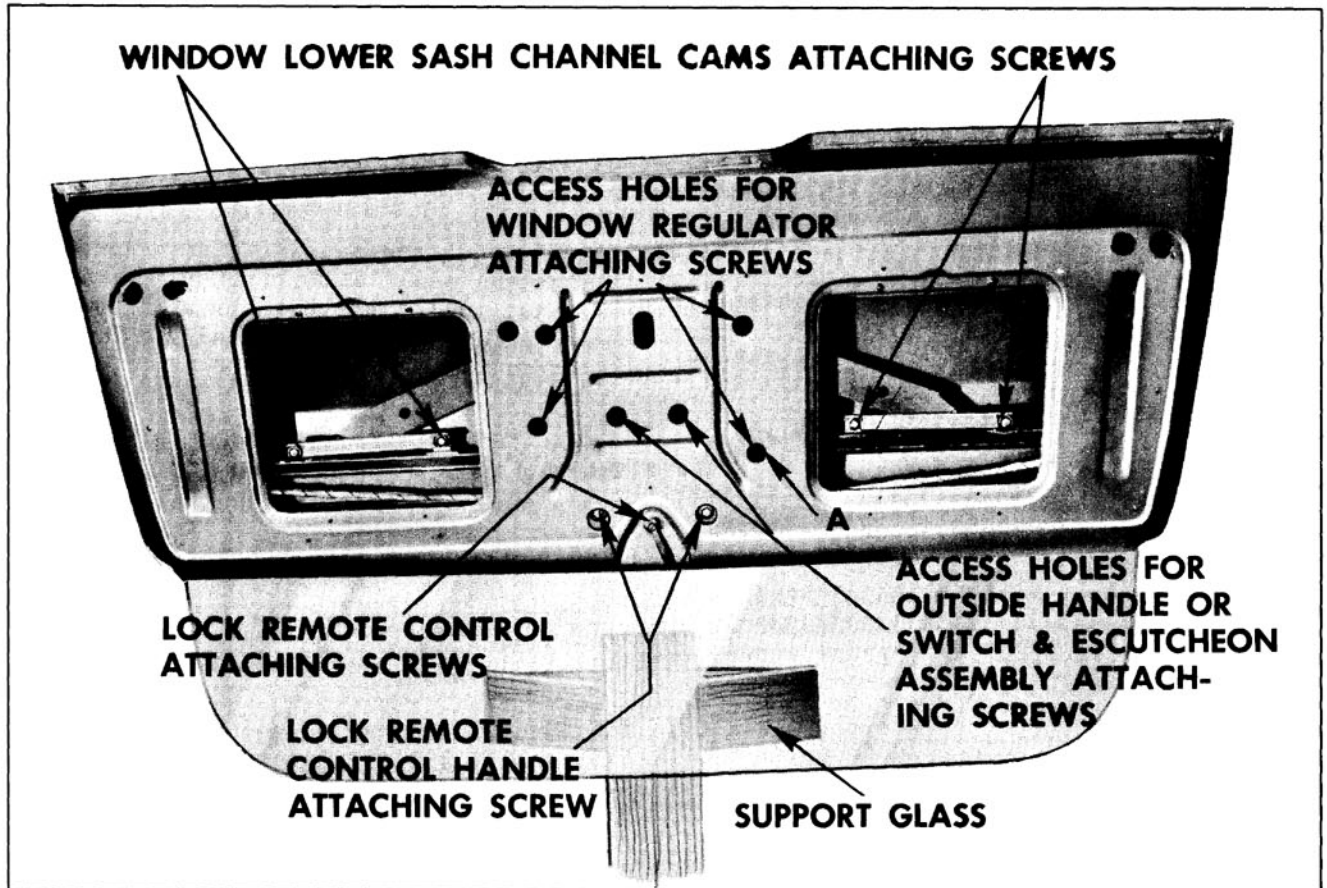

Fig. 16-476 Tailgate Hardware
3. Carefully operate window upward until window lower sash channel cam attaching screws are accessible through access holes; then, remove both right and left cam attaching screws (Fig. 16-476) and disengage cams from window sash channel.
3. Through access holes, remove window regulator attaching screws (Fig. 16-476) and remove regulator.
NOTE: If window is inoperative in a down position, remove inner panel left access hole cover; then remove both right and left window lower sash channel cam attaching screws (Fig. 16-476) and lift window up sufficiently to gain access to regulator motor attaching screws. Prop window in up position.
CAUTION: Support window during operation and while window is in out position (Fig. 16-476).
CAUTION: Support window during operation and while window is in out position. (Fig. 16-476)
2. Disconnect remote control to lock connecting rods at remote control assembly. Remove remote control inside handle attaching screw and remove handle. (Fig. 16-476)